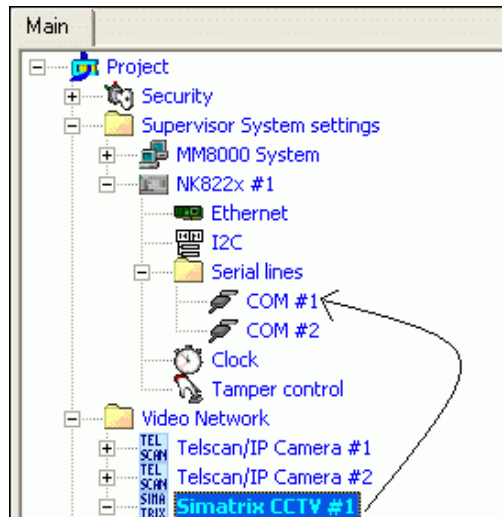

Fig 16 Linking SIMATRIX to NK8223
3. Drag and drop the SIMATRIX node to the network port node (see Fig 16).